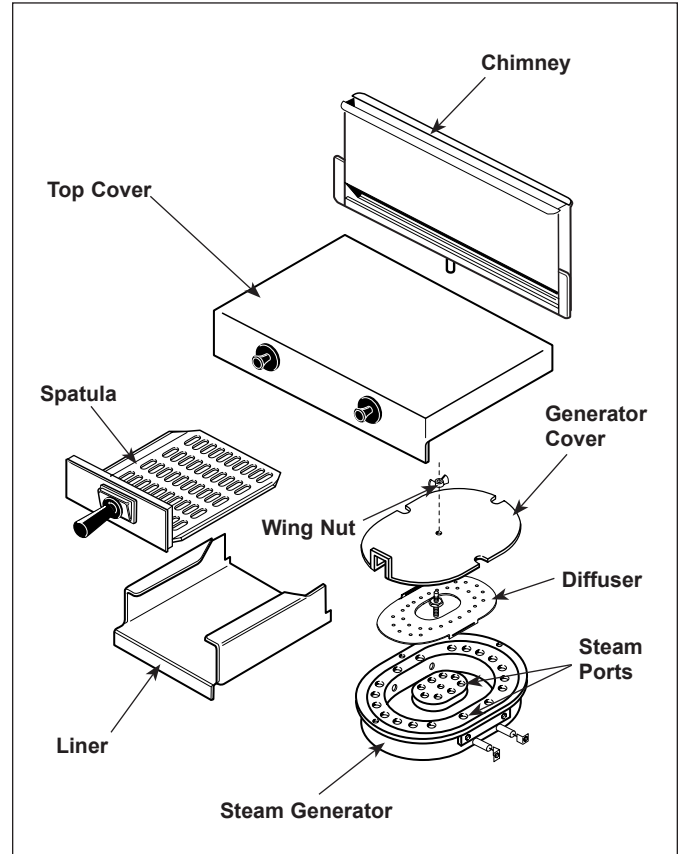

Figure 7. Steamer Components
3. Remove the Top Cover, Spatula(s), and Liner(s) (Figure 7).
4. Remove Chimney from rear of unit by sliding upward and away from unit (Figure 7).
3. Remove Wing Nut and Generator Cover (Figure 7).
5. Examine all Steam Ports (Figure 7). If mineral deposits have formed, place a flat blade screwdriver or wire brush into openings. Use a twisting motion to scrape openings clean.